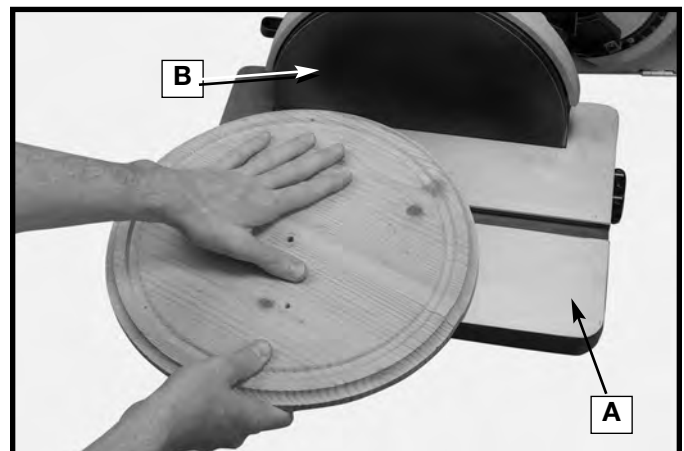

Fig. 47
Sand outside curves on the sanding disc as illustrated in Fig. 47.
⚠ WARNING THE EDGE OF THE TABLE (A) FIG. 47 MUST BE POSITIONED A MAXIMUM OF 1/16" AWAY FROM THE SANDING DISC (B) TO AVOID TRAPPING THE WORKPIECE OR FINGERS BETWEEN THE TABLE AND SANDING DISC.